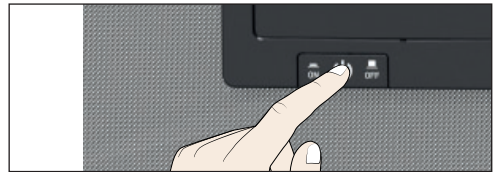

Fig. 22 Switching off the appliance
4. Switch off the appliance with the main switch (Fig. 22).